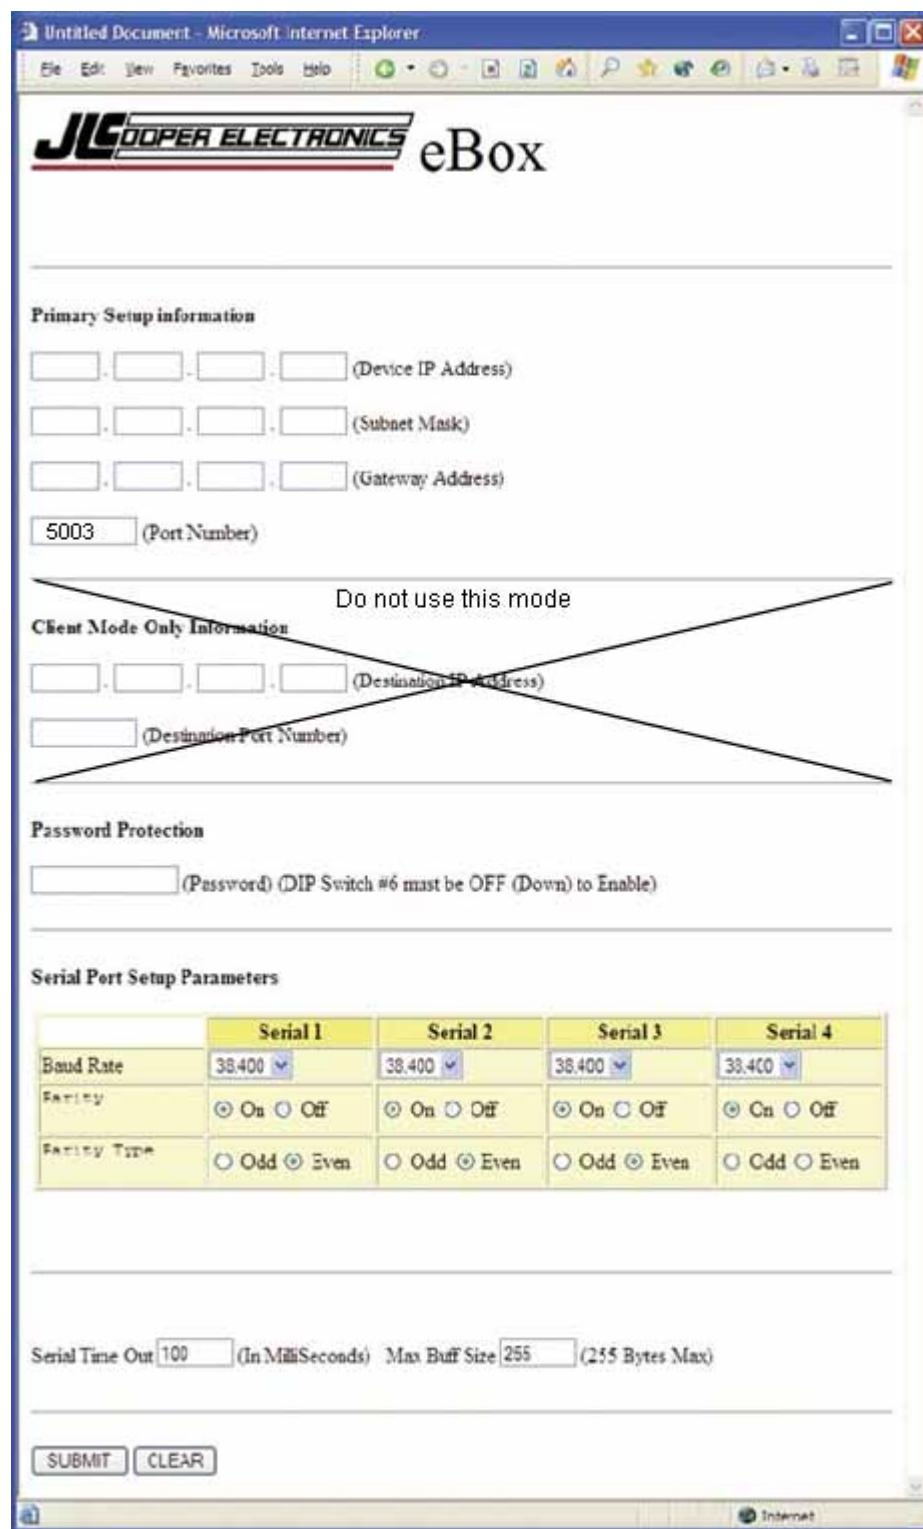

Figure 2-45 JLCooper EBox Settings for IconMaster
- 6 Using Microsoft Internet Explorer 6 as your web browser, access the JLCooper electronics eBOX configuration web page, and then configure the eBOX to **Server** mode, as described in the *eBOX Ethernet to Serial & GPI Interface Users Manual*. See **Table 2-11** and **Figure 2-45** on page 47 for settings information.